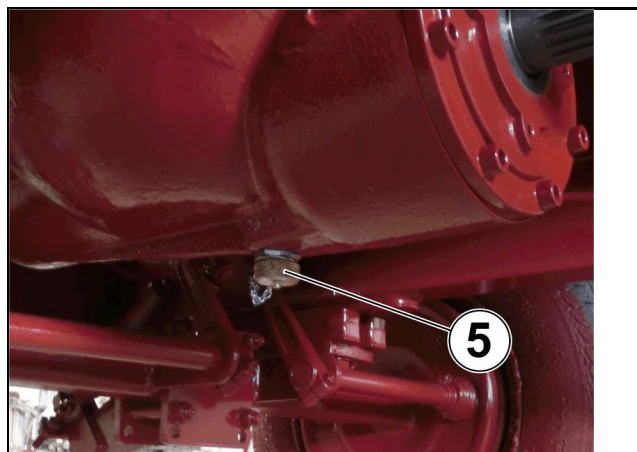
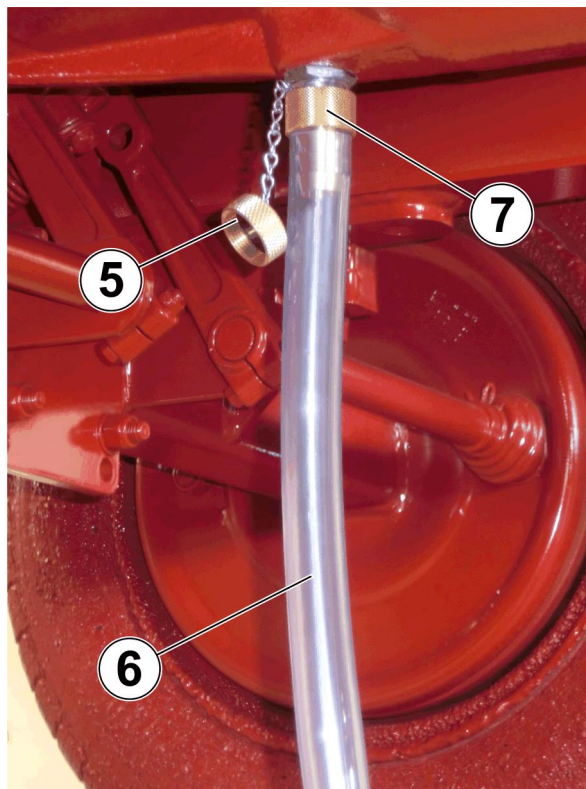

Fig. 77
Fig. 78
7. Place the drip tray beneath the drain valve (Fig. 77/5) of the mixer gearbox.
8. Hang the oil drain hose (Fig. 78/6) into the drip tray.
9. Remove the cap (Fig. 77/5, Fig. 78/5) from the drain valve.
10. Screw the end of the oil drain hose onto the drain valve by means of the union nut (Fig. 78/7).
- 16. Screw the cap (**Fig. 77/5**, **Fig. 78/5**) onto the drain valve.